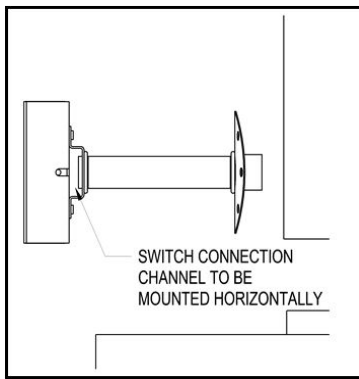

Figure 17
4. Secure the assembly to the vent pipe with a minimum of 4 sheet metal screws. The channel must be mounted horizontally, unless specified differently by the appliance manufacturer. (See Figure 17)